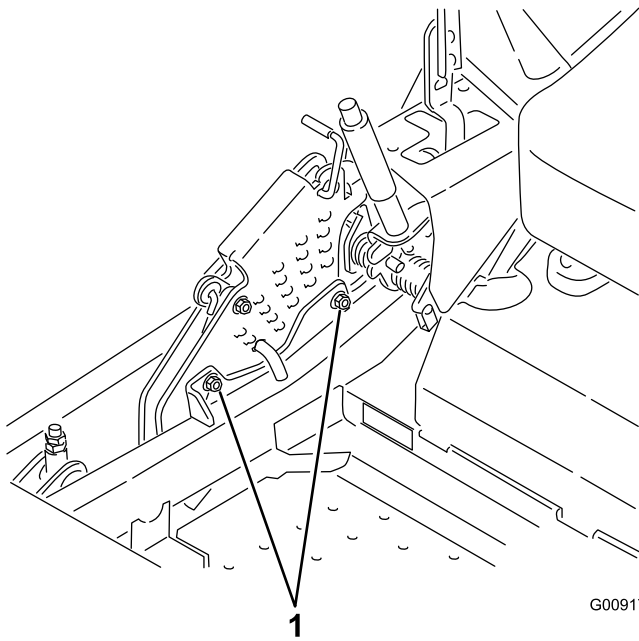

**Figure 92**
- 10. Fine-tune the adjustment nut on the front deck lift assembly by turning it (Figure 92).
16. Fine tune the screw adjuster by turning it to get 8.3 mm (3-1/4 inches) height (Figure 92).